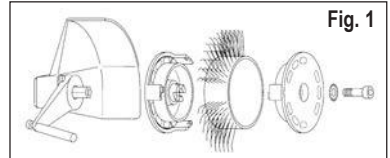
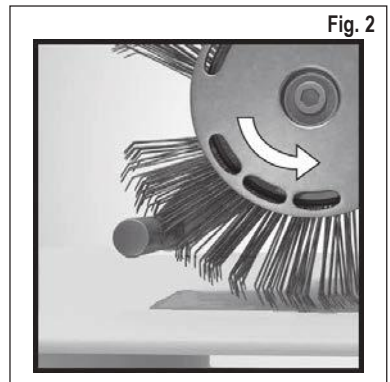

Fig. 1
Fig. 2
3. Interrupt supply of compressed air and then fasten Bristle Blaster® 23 mm or 11 mm Belt correctly to the tool using the related Adaptor System (pay attention to direction of travel) and the related serrated lock washer and screw. See Fig. 1 and Fig. 2
- ⚠ Are you using a Bristle Blaster® Belt with the wrong direction of travel? – Fit the Bristle Blaster® Belt such that it runs in the correct direction (see section 7, Placing in operation, Fig. 2).